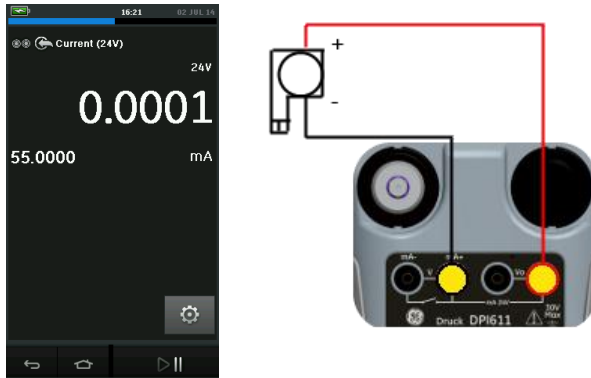

Figure 2-20 Measure current on CH1. Range ± 55 mA
- *Figure 2-20 shows CH1 set-up to measure or source a current with internal loop power.